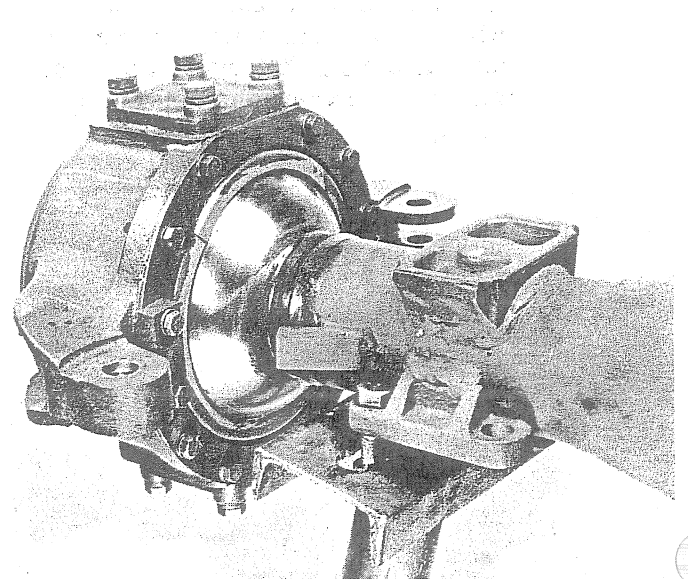

Fig. 95 - Spindle Seals and Stop Block in Place
- e. Secure seals and retainers in place with split ring halves, while installing steering "stop" block in its correct position using the two longest bolts. See Fig. 95. Tighten bolts 20-25 ft.-lbs. torque.